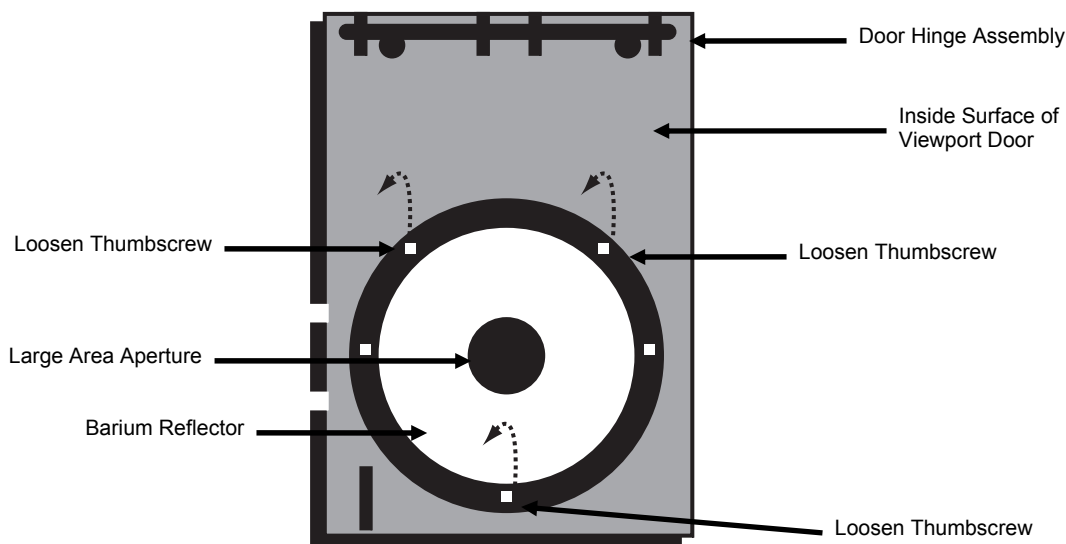

Figure 4-7. Changing the Sampling Aperture, Step 2.
3. To disengage the Large Area View Aperture from the inner side of the viewport door, turn the three captive thumbscrews counterclockwise. See Figure 4-7.